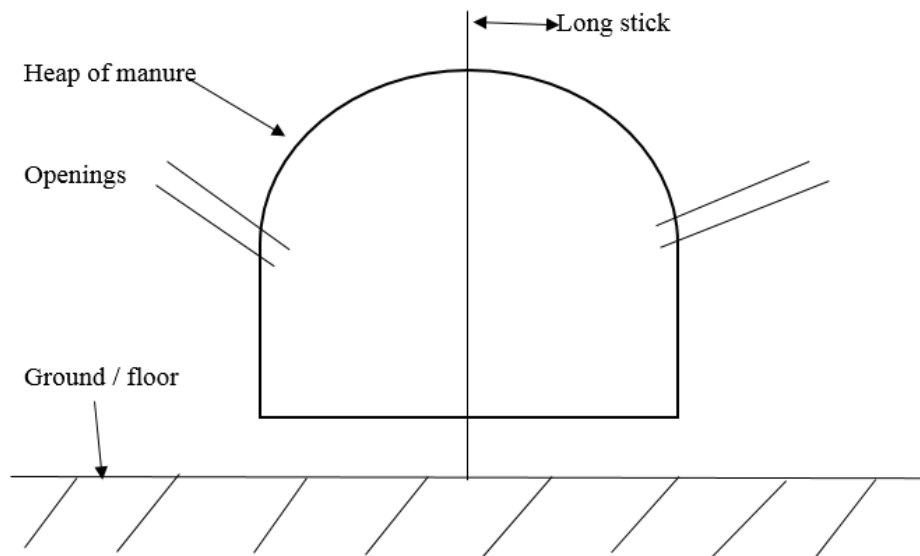

Figure 5-1: Diagram illustrates the manure curing process
- iii. Droppings should be cured (Figure 5-1), if possible